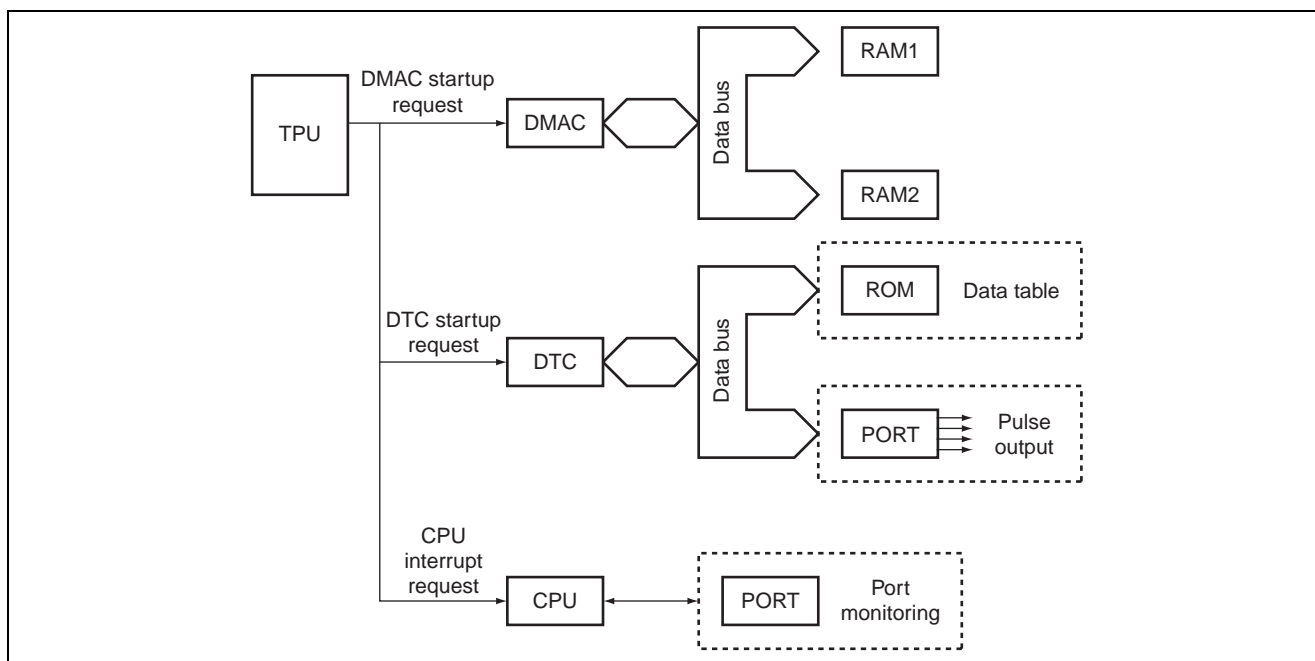

Figure 2 Block Diagram of Simultaneous Startup of DTC, DMAC, and CPU
A. The block diagram of H8S/2339 internal functions that this sample task uses is shown in figure 2.